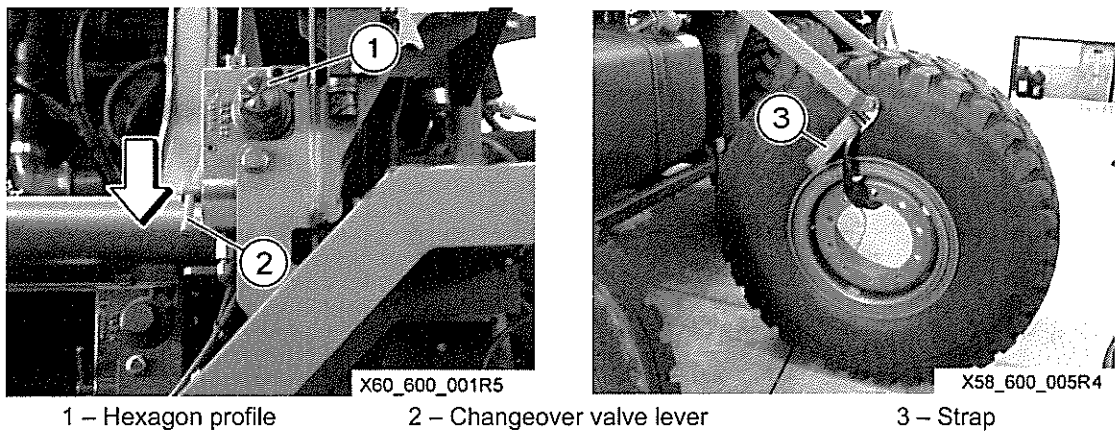

Fig 68 Release the spare wheel
222.4 Refer to Fig 68. Move the lever (2) of the changeover valve downwards until the lever reaches the stop.
- (1) **PERSONAL INJURY. THE SPARE WHEEL SWINGS, KEEP THE AREA CLEAR.**
- (2) **PERSONAL INJURY. STAY OUT OF THE AREA BETWEEN THE SPARE WHEEL AND THE VEHICLE DURING LOWERING.**